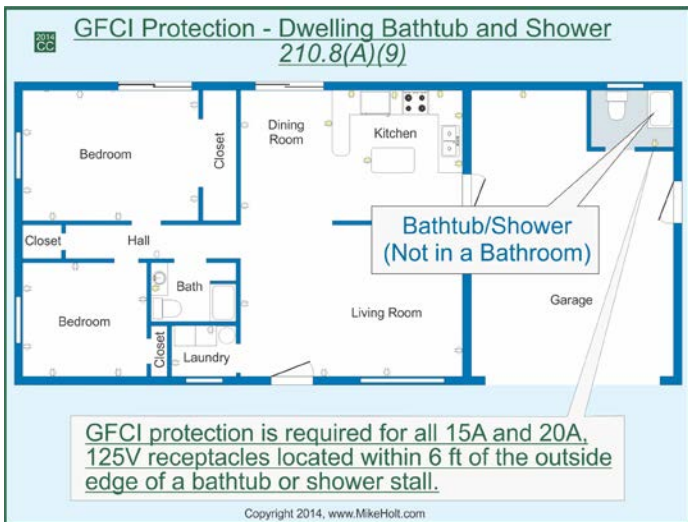

Figure 210-33
(9) Bathtubs or Shower Stalls. GFCI protection is required for all 15A and 20A, 125V receptacles located within 6 ft of the outside edge of a bathtub or shower stall. Figure 210-33